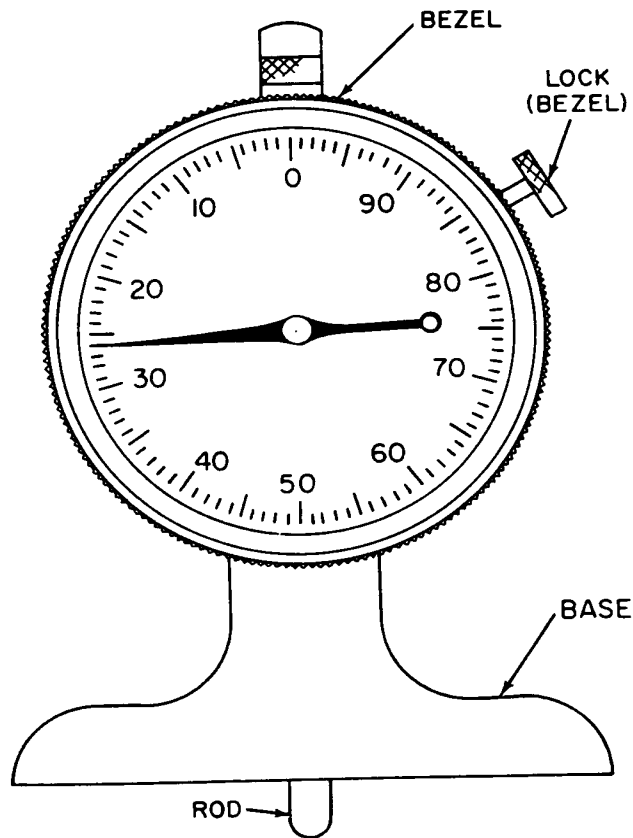

Figure 2. Flat base normally extended dial indicating depth gage.
(1) Flat base normally extended type (fig. 2).